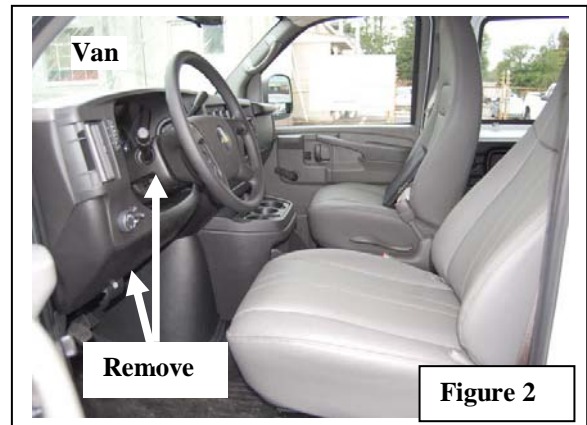

Figure 2
- 2.  Remove the driver side lower dash and kick panels. Remove the steering wheel shroud. **Figures 2 & 3**